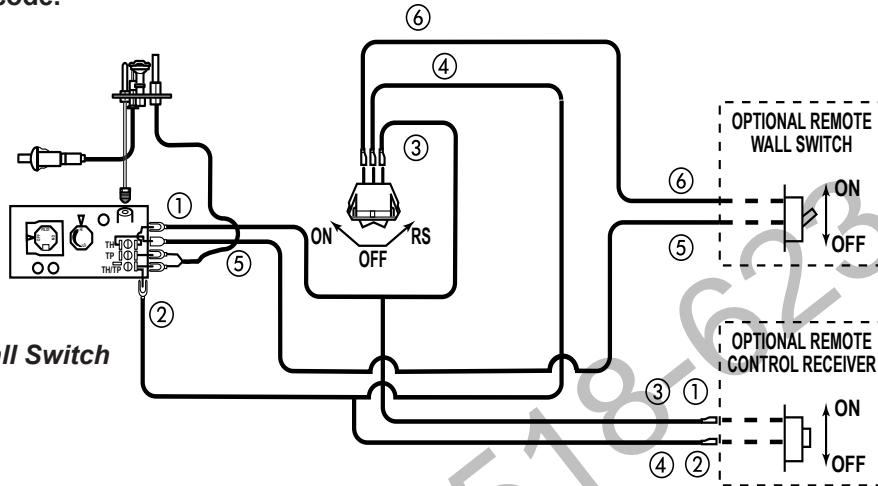

Figure 34 -
A remote wall switch and up to fifteen (15) feet of 18 Ga. wire may be used with this appliance. Attach the wall switch in a junction box at the desired location on the wall. *Figure 34*. Do not extend beyond the wall switch wire length provided.